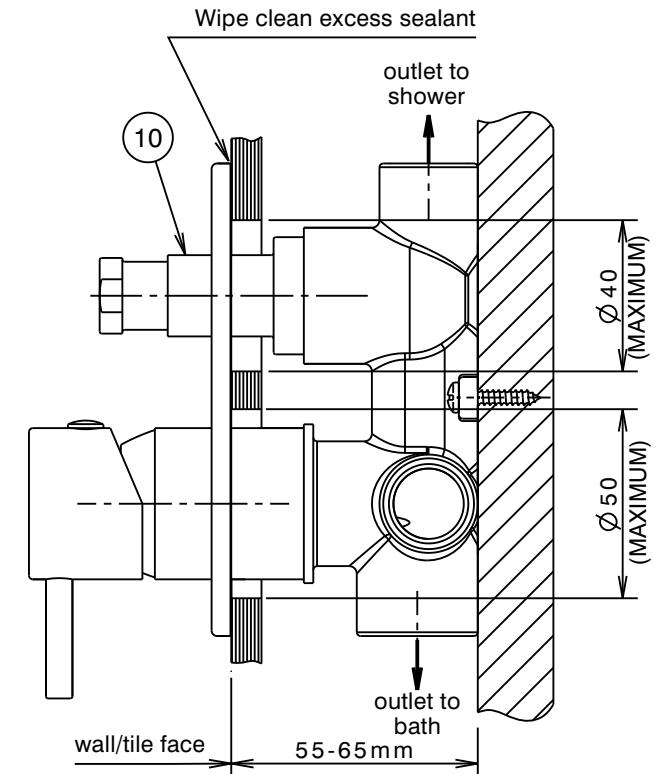

Fig. 1
Installation (Fig. 1 & 2)
- * Mixer body (9) must be installed square to wall/tile face, to ensure cover plate (5) sits flush.
- 2) Apply a suitable clear sealant to the back edge of the cover plate (5), leaving an unsealed section at the bottom for drainage. Slide cover plate (5) evenly onto diverter sleeve (10) and mixer body (9) and push the cover plate (5) firmly against the wall/tile face. Wipe/clean excess sealant from the chrome surfaces & the wall/tile face (See Fig. 1).
- 3) Fit handle (1) taking care that it is pushed fully onto cartridge stem, then tighten grub screw (4) using the 2.5mm allen key (3). Fit plug (2), taking care not to damage the decorative finish.